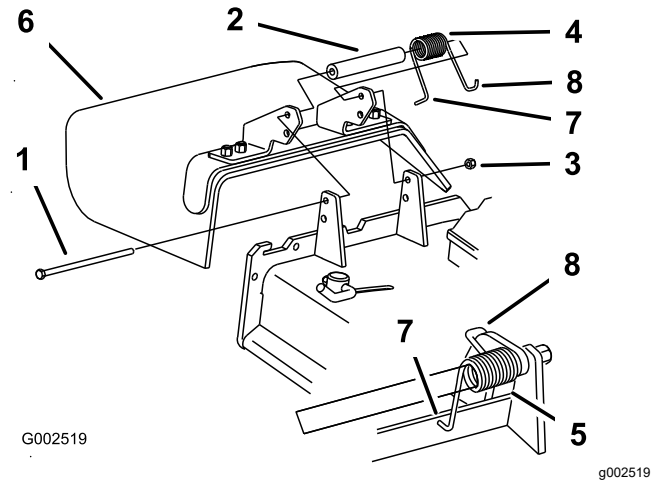

Figure 14
1. Remove the side-discharge chute from the mower deck (Figure 14).